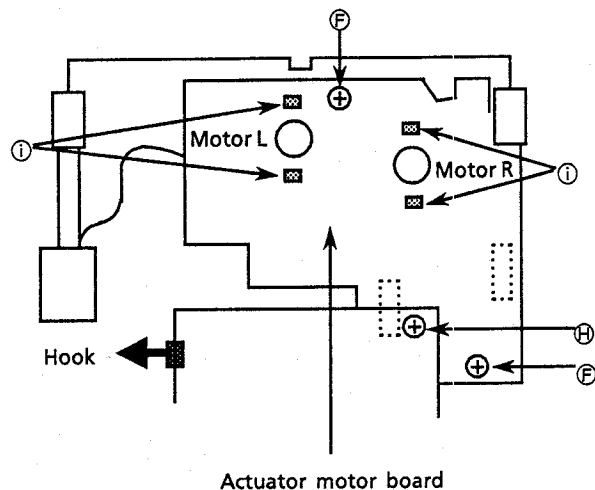

Fig. 31
1. Unsolder 4 soldered point ① for both motors. (See Fig. 31.)
2. Remove a screw ④ securing the CD servo board. (See Fig. 31.)
4. Remove 2 screws ② securing the actuator motor board. (See Fig. 31.)